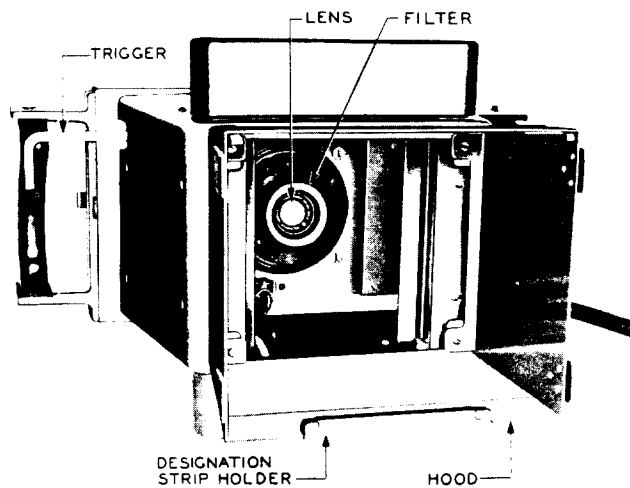

Fig. 2 - Camera Showing Hood and Designation Strip Holder (filter mounted over lens)
1.04 The KS-14593 L2 message register camera, shown in Fig. 2, has outside dimensions approximately 13 by 16 by 17 inches and weighs about 18 pounds. This specially designed camera is used for photographing 2000 central office message registers, in blocks of 25, on a roll of sensitized paper approximately 3-5/8 inches wide. The roll of paper is developed and stabilized in the telephone office, using the KS-14778 photo processor, and provides direct readings of the message registers photographed. The camera hood, containing the flash lamps for illuminating the message registers, is placed over the block of 25 registers being photographed. An exposure counter on the outside of the camera shows the number of exposures made on the paper in the camera. Normally, 80 exposures are
4.03 Prepare a designation strip bearing pertinent information including central office name and date of exposure. The designation strip should be 4 inches long and 1/4 inch wide and should preferably be of a light brown color with the characters applied in India or printer's ink. The characters should be at least 3/16 inch high and the 3/8-inch portion at each end of the strip should be left blank since the designation strip holder lugs cover these portions. Slip the designation strip in position in the holder at the lower edge of the camera hood shown in Fig. 2. The lettering on the strip should face the camera lens, and the bottom edge of the strip should be toward the bottom of the hood.